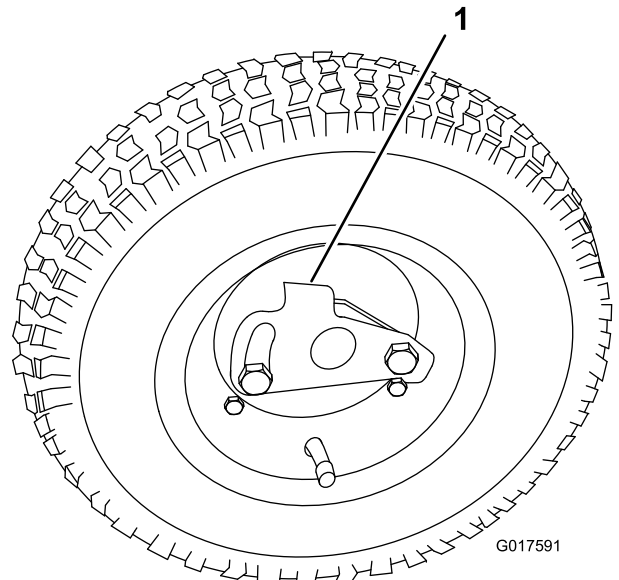

Figure 10
2. Press the wheel locking clip toward the center of wheel and slide the wheel onto the hex shaft (Figure 10).